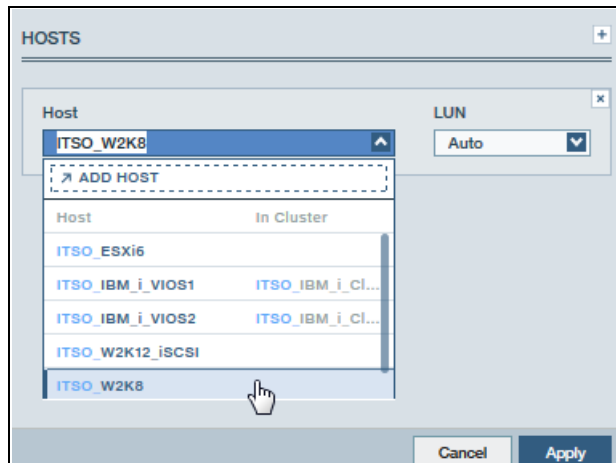

Figure 1-31 Mapping a volume to a host
3. Select an available host from the pull-down list. The GUI suggests a default (Auto) LUN ID to which to map the volume. However, this ID can be changed to meet your requirements. Click **Apply** and the volume is assigned immediately (see Figure 1-31 on page 37).